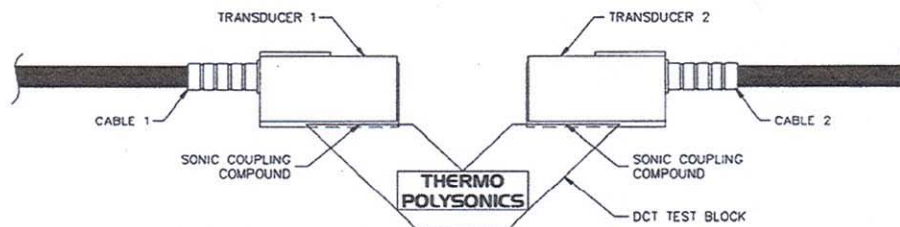

Figure 1: DCT Test Block
1. Place a layer of sonic coupling compound in the slots on the Test Block (Figure 1).